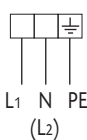

Fig. 46
- Connect the phase and earth cables to the terminal block "B" according to the diagram in figure 46.